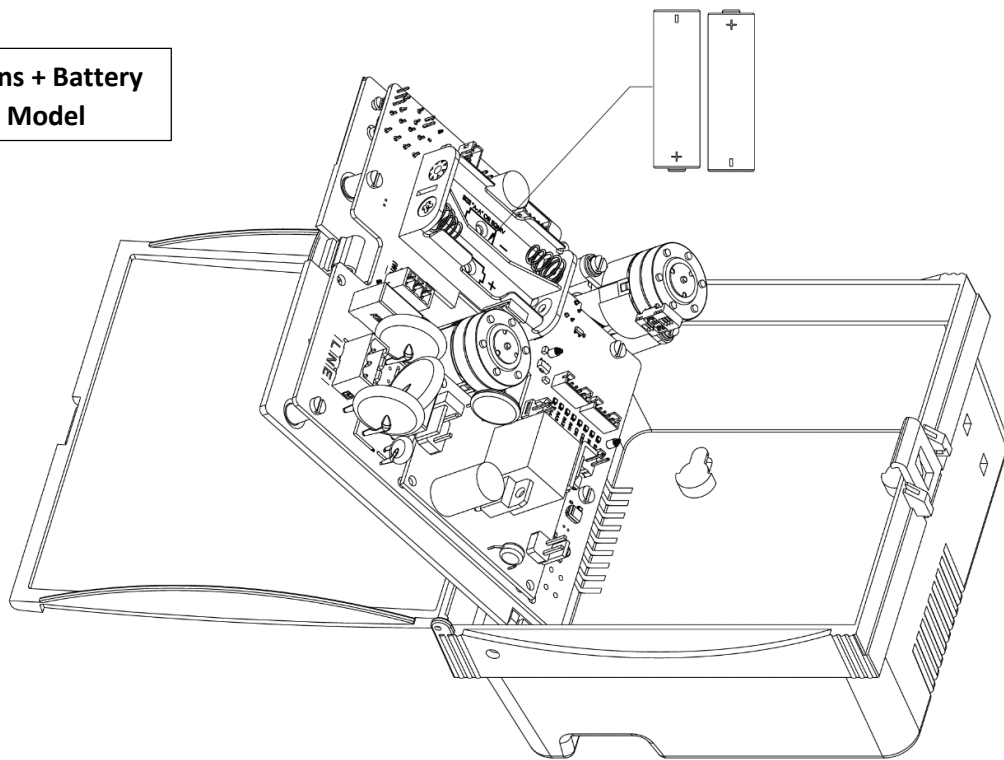

Figure 17 - Battery Replacement
- Remove the old Batteries and insert new batteries as shown in figure 17.